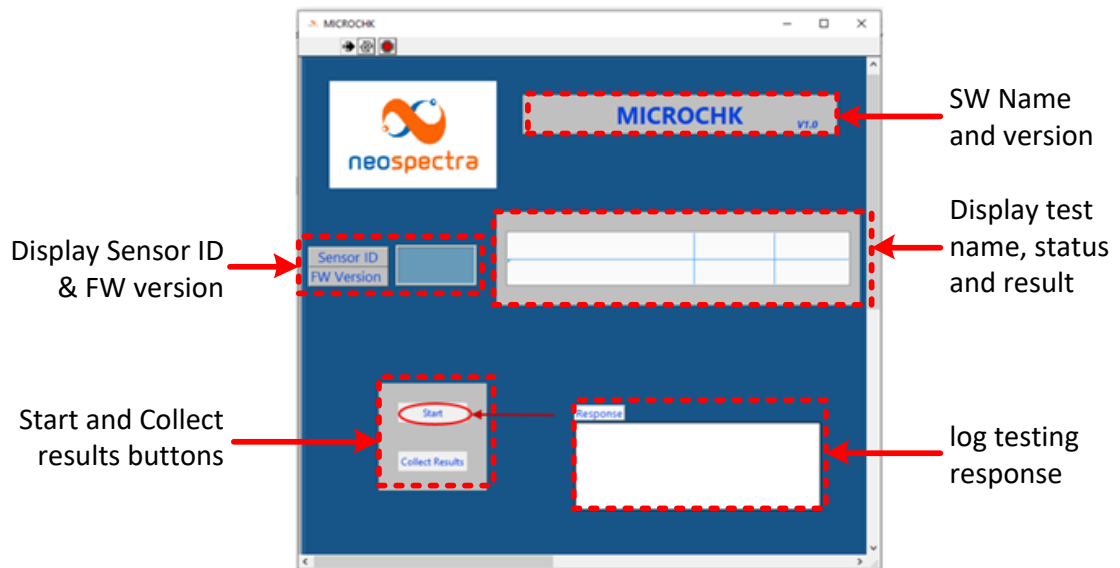

Figure 10: MICROCHK user interface
4. The software user interface shall open as shown in Figure 10